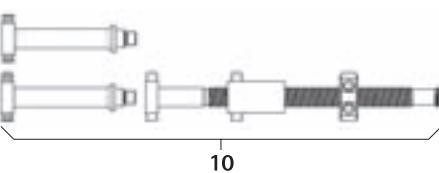

Fig. 16
- ▶ Mount distraction spindle 10, see Fig. 16.